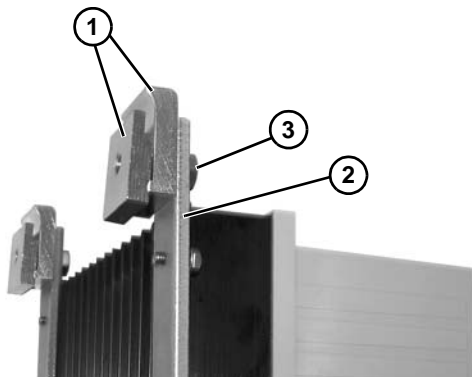

Figure 18
2. Loosely attach clips (**Figure 18, item 1**) to mounting bar (**Figure 18, item 2**) with M6 x 16 mm screws (**Figure 18, item 3**).